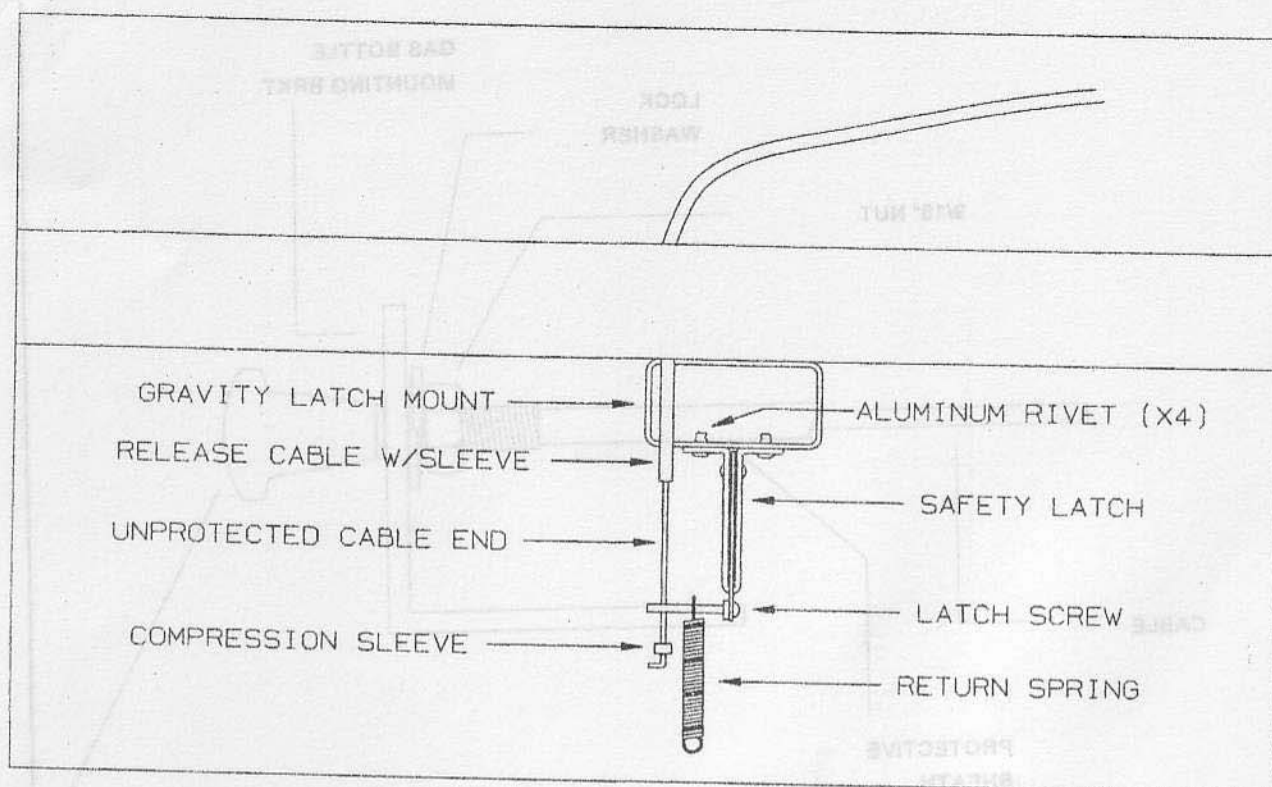

FIGURE 2
- With the top in the lowered position, locate the safety latch under the trailer and cut the unprotected cable end between the compression sleeve and the latch screw. See figure 2.
15. Guide the unprotected cable end through the pre-drilled hole in the latch screw. Refer to figure 2.
17. With the push/pull control assembly fully depressed, slide the compression sleeve against the latch screw. See figure 2. Using a pair of pliers, squeeze the compression sleeve tight. Place a 90° bend in the cable directly behind the compression sleeve.